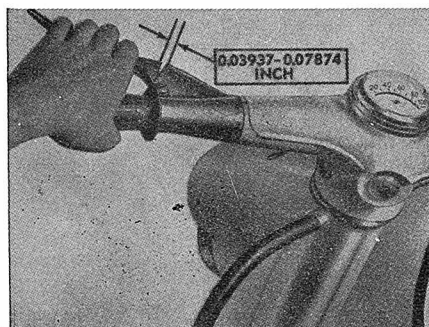
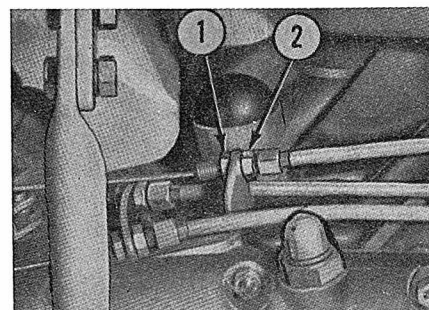

Fig. LM1-5—Clutch hand lever should have 1-2MM free play as shown.
Fig. LM1-6—Clutch is adjusted by turning nuts (1 & 2) until free play at hand control lever is as shown in Fig. LM1-5. Late models are similar.
**CLUTCH CONTROL.** The clutch hand lever should have 1-2 MM (0.04-0.08 in.) free play as shown in Fig. LM1-5. Adjustment is accomplished at adjuster (2—Fig. LM1-6) after lock nut (1) is loosened. Make certain clutch completely disengages when lever is completely compressed.